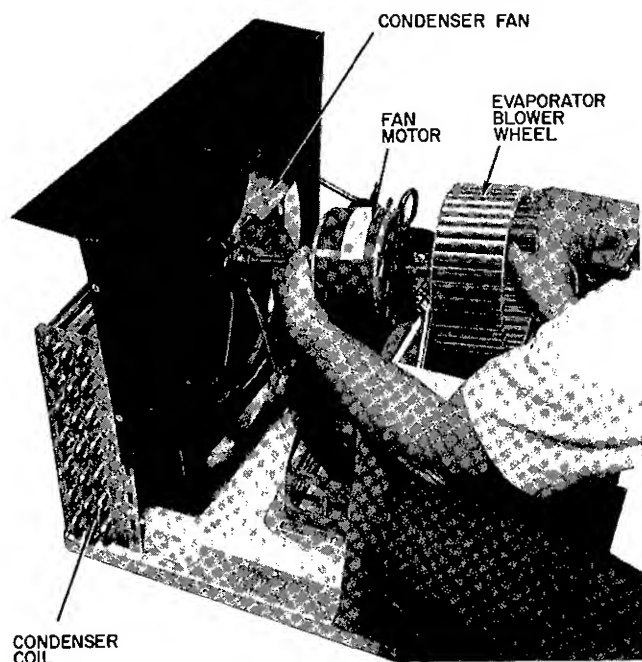

Fig. 32 — Evaporator Fan Section
36 Fan Section — See Fan Section in Fig 32
- i Gently lift fan assembly out of chassis See Fig 32
37 **Evaporator Fan** — See Evaporator Fan in Fig. 32
38 **Condenser Fan** — See Condenser Fan in Fig. 32
39 **Fan Motor** — See Fan Motor in Fig. 32
42 **Evaporator and Condenser Coils** — See Evaporator and Condenser Coils in Fig. 32 and 33 These coils have copper tubing and the interconnecting tubing has been manufactured as an integral part of the coil to aid in servicing